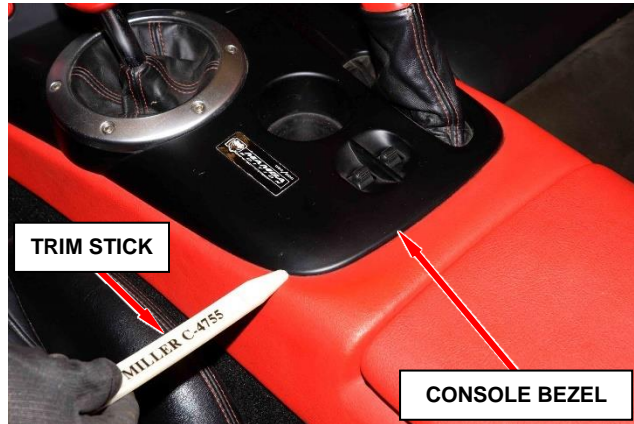

Figure 3 – Center Console Bezel
6. Use a trim stick to carefully release the center console bezel retaining clips (Figure 3).